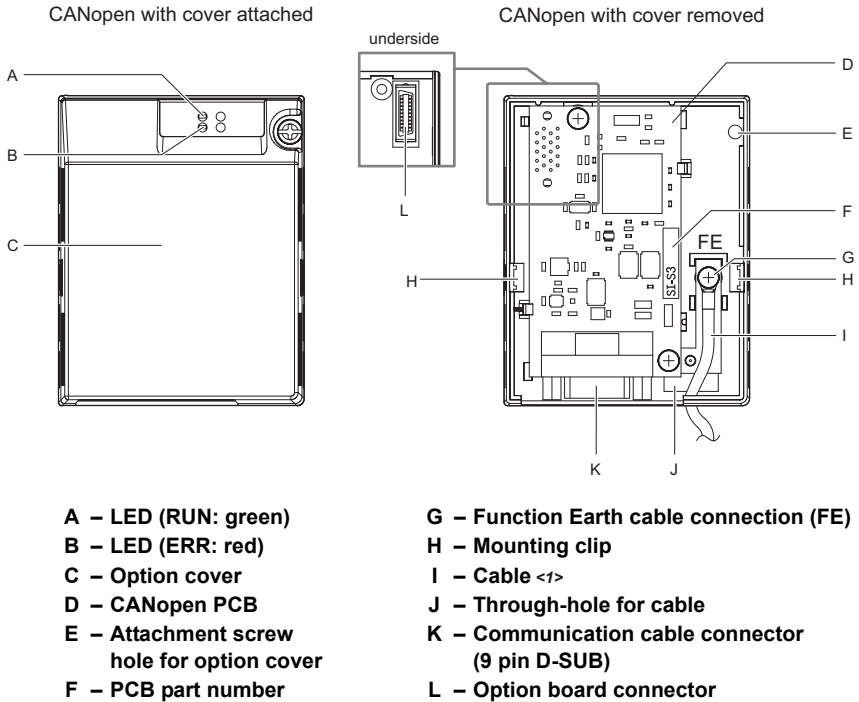

Figure 1 Option Unit
- Verify receipt of the correct model by checking the information on the PCB (see *Figure 1*).